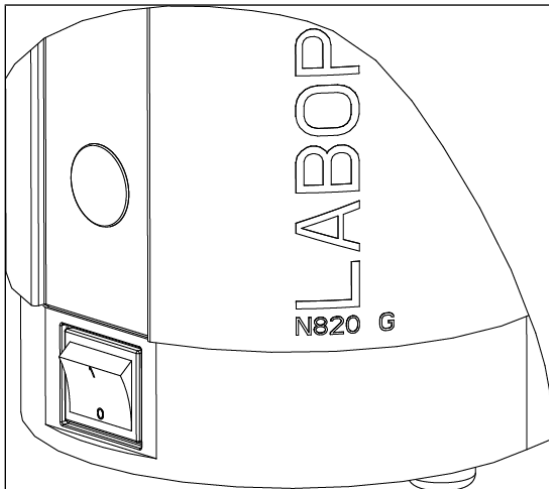

Fig. 5: Switching the pump on and off with power switch
- Switch on the pump with the power switch (see Fig. 5).